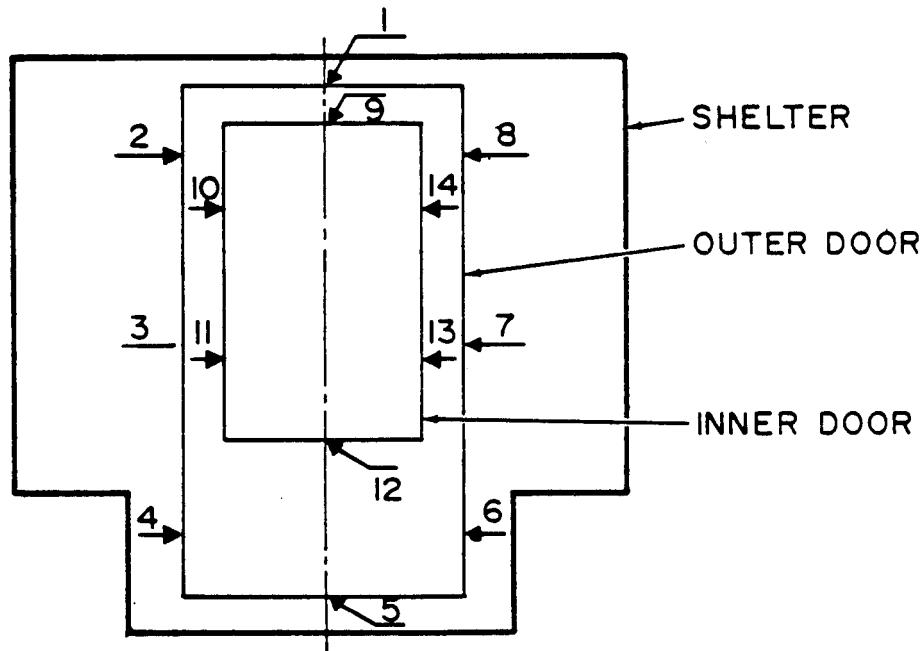
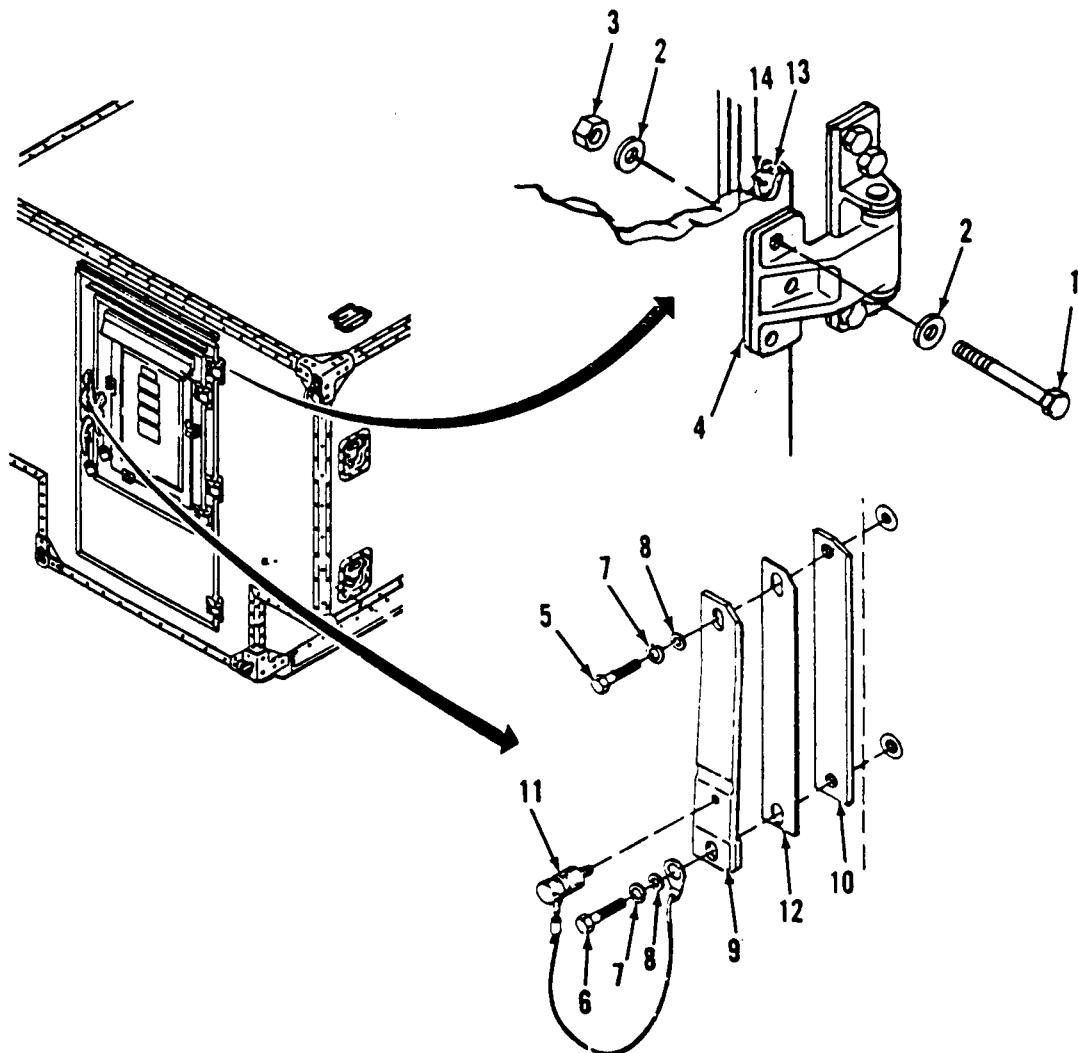

Figure 3-19. Typical Locations for Door Gasket Testing.
Figure 3-20. Weather Gasket and Seal Pressure Adjustment.
*a .* Inspect. (Figure 3-20)
- (1) Inspect the door assembly (2) for external damage.
- (2) Inspect the silicone weather gasket (15) for tightness.
- (3) Inspect the RFI/EMI gasket for wear and secure mounting.
*b .* Test. (Figure 3-19) Test of the door assembly consists of testing for proper seal pressure on the silicone weather gasket. The procedure listed below shall be performed at the center top and bottom of the door, and three places along each side of the door, as shown in Figure 3-19.
- (1) Place a single piece of paper (0.005 inches maximum thickness by 2-1/2 inches wide) between the silicone weather gasket and its bearing surface.
- (2) Close and lock the door.
- (3) Withdraw the paper. Resistance to the withdrawal of the paper indicates proper seal pressure. If there is no resistance, perform the adjustment procedure contained in the following paragraphs.
- (4) If there is resistance to the withdrawal at all of the test points, sufficient seal pressure exists on the silicone weather gasket and adjustments are not necessary.
*c . Adjust.* (Figure 3-20) Adjustment to increase the seal pressure on the silicone weather gasket can be made on the hinged side of the door and on the roller latch side of the door, as described in the following paragraphs:
- (1) Weather Gasket Pressure Adjustment. To increase the weather gasket pressure on the hinged side of the door, proceed as follows
- (a) Open the door and remove and retain three bolts (1), six flat washers (2), and three self-locking nuts (3) attaching the hinge to the door.
- (c) Insert shim (4), approximately 0.032 inches thick and matching the hinge body in size, between the hinge leaf and the door.
- (d) Secure the hinge leaf to the door using three bolts (1), six flat washers (2), and three self-locking nuts (3).
- (f) After completion of adjustment procedure, apply a continuous bead of sealer around shim (4) and hinge leaf, and around head of bolts (1).
- (2) Seal Pressure Adjustment. To increase the seal pressure on the roller latch side of the door, proceed as follows
- (a) Open the door and remove and retain the hex head screws (5 and 6), flat washers (7), and lock washers (8) from the top and bottom hole attaching the keeper (9) to the wall, and remove keeper and shim (10). Remove detent pin (11) from center keeper.
d. Replace. (Figure 3-20) To replace the RFI/EMI gasket (13), remove gasket from track and clean track of any dirt. Place new gasket over track and snap in place. To replace the silicone weather gasket (14), proceed as follows
- (1) Remove gasket (14) and clean track from adhesive residue.
- (2) Apply sealer in track groove all around door and snap new gasket in place in track on door.